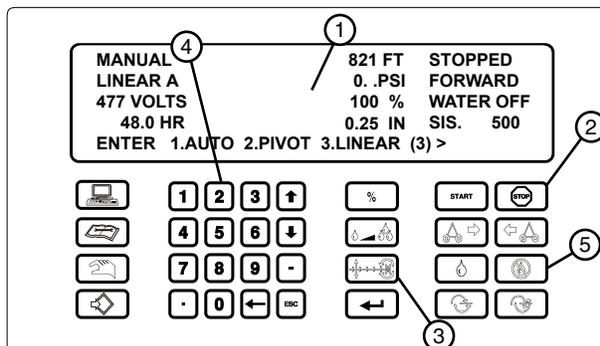

Figure 80-1 1. Control Panel Display 2. Stop Key 3. Pivot/Linear Key 4. Numeric Key 5. Water OFF Key
1. At the control panel, press . See Figure 80-1.
2. Press  to turn the Water OFF. See Figure 80-1.
3. Press  and **2** to change the machine to the pivot mode. See Figure 80-1.